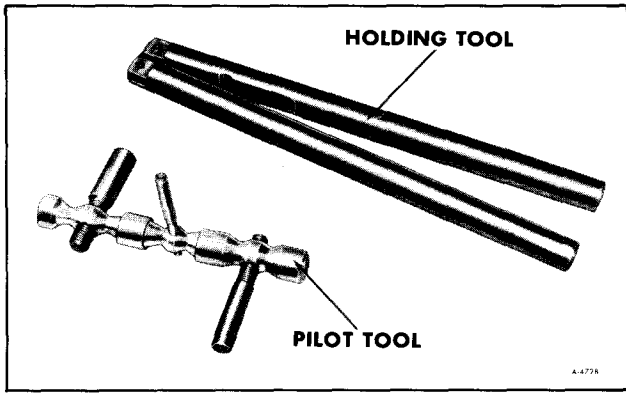

Figure 52—Special Tool J-26227
1. Cut the line off square, removing section with the leak. Use Special Tool J-26227 to flare the line (figure 52).